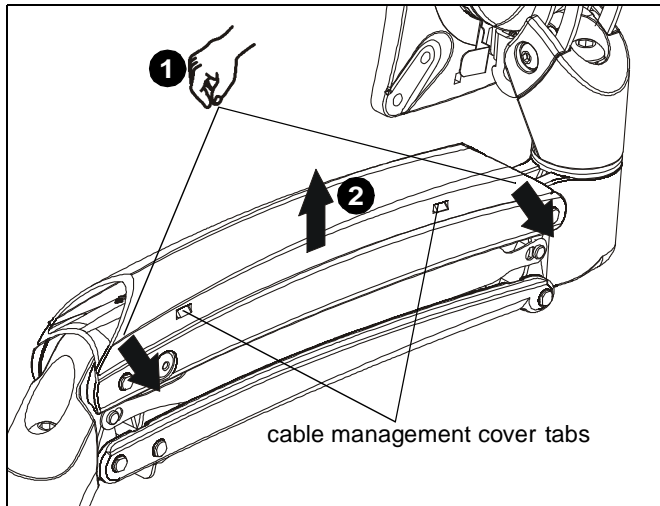

Figure 21
1. Press insides of cable management covers at both ends to unhinge tabs on either end of cable management cover on upper arm. (See Figure 21)
2. Lift cable management cover up until tabs are unhinged and cover is in the "open" position. (See Figure 21)